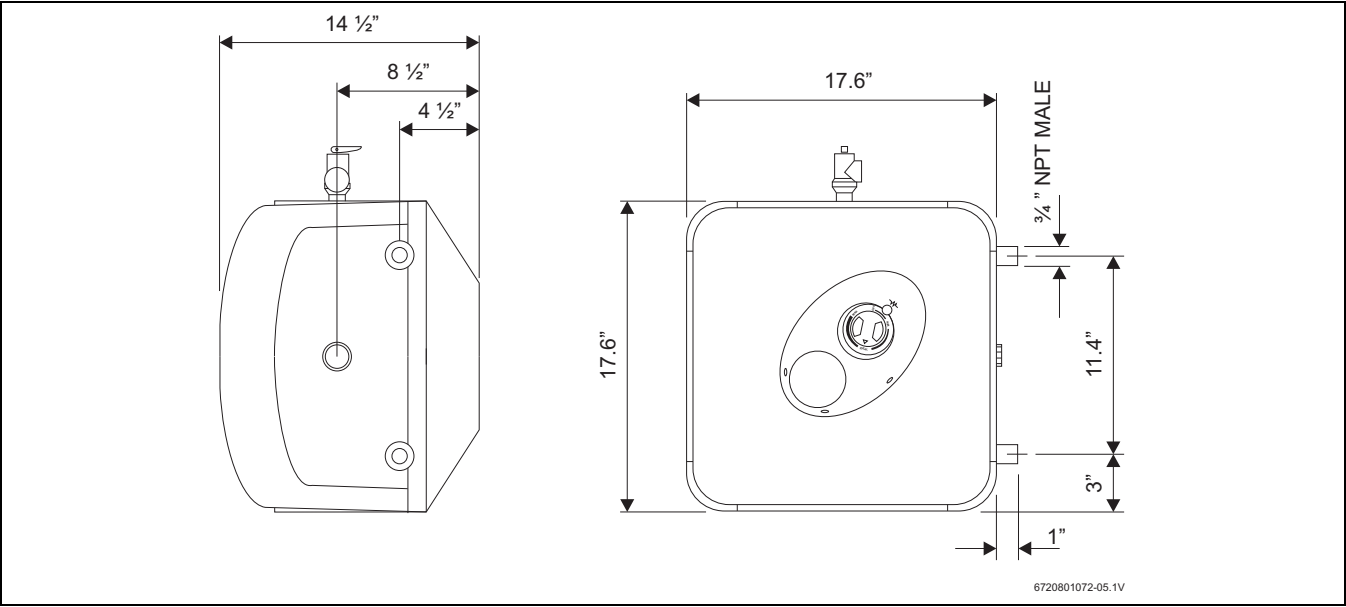

Fig. 7
- ▶ The supplied Temperature and Pressure Relief Valve will need to be installed on top. See location of T&P relief valve in Fig. 7.